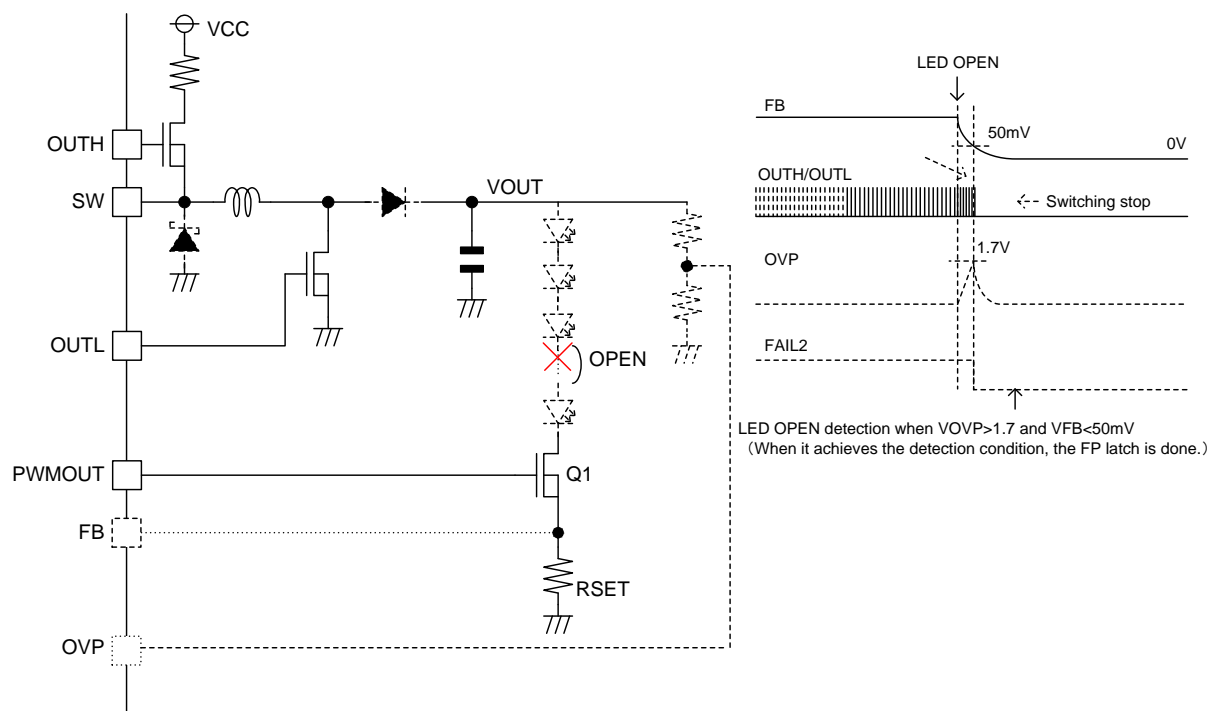

Figure 34
(8) LED Open Detection(Following Figure 34 in P.20)